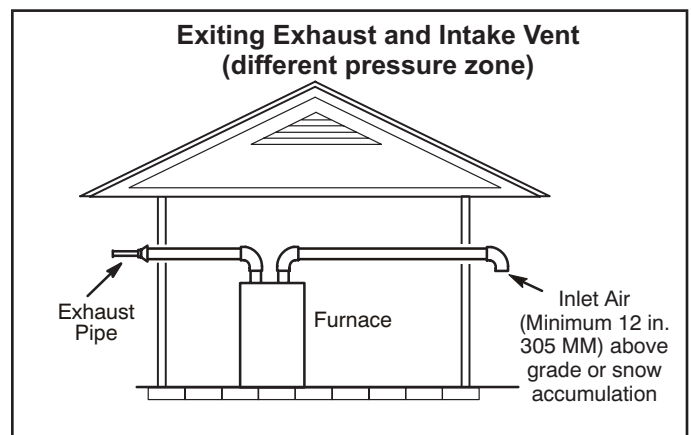
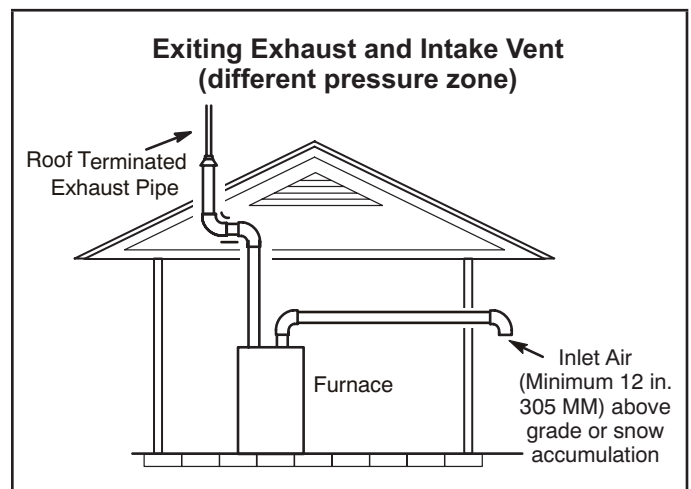

FIGURE 29
FIGURE 30
- 1 - Intake and exhaust terminations are not required to be in the same pressure zone. You may exit the intake on one side of the structure and the exhaust on another side (FIGURE 29). You may exit the exhaust out the roof and the intake out the side of the structure (FIGURE 30).